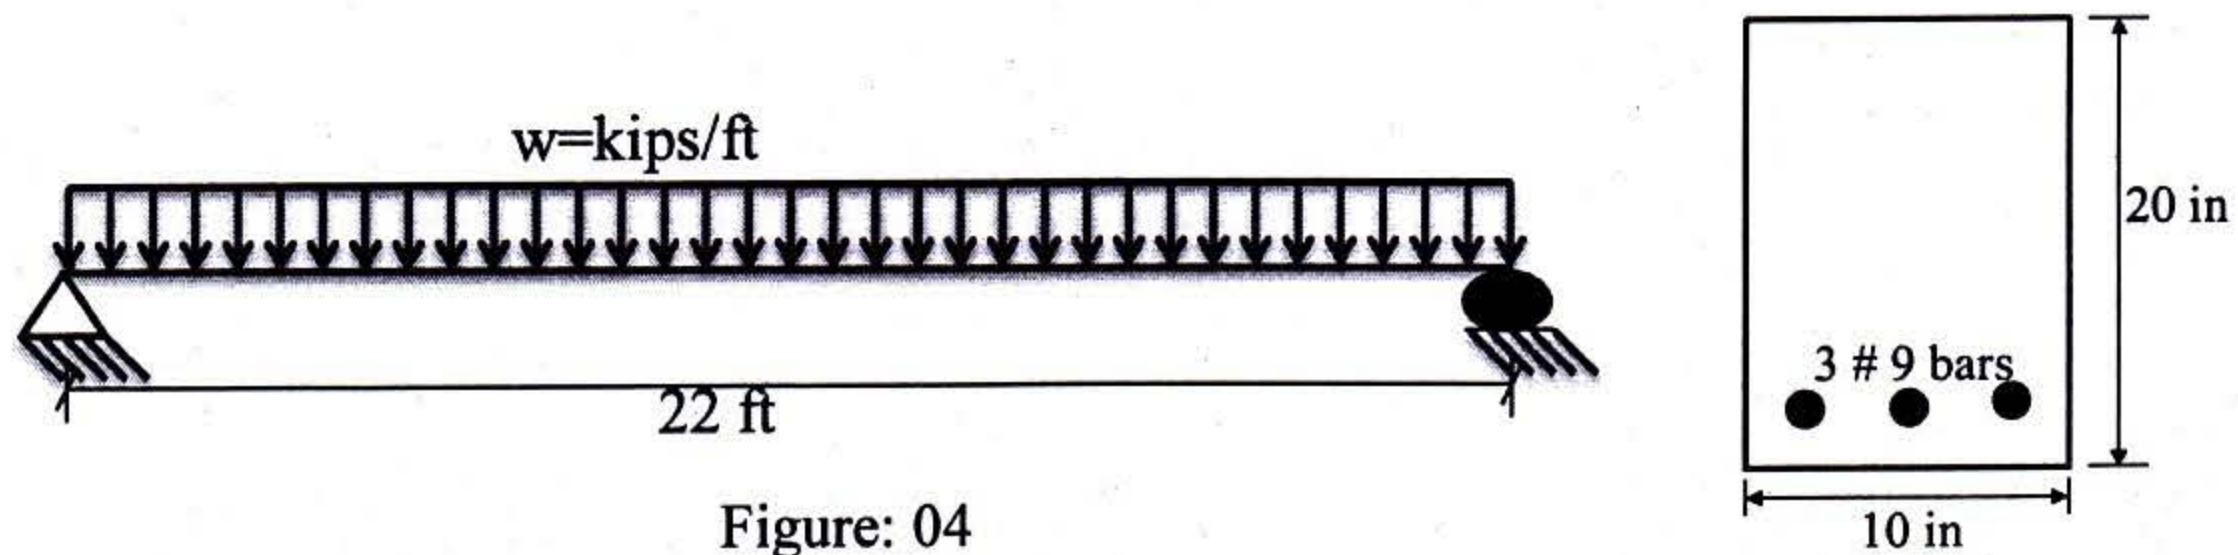

Figure: 04
(c) Use the **WSD** method to determine the allowable live load w_l (kip/ft) for the beam loaded as shown in Figure: 04, considering beam self-weight as the only dead load. (10)